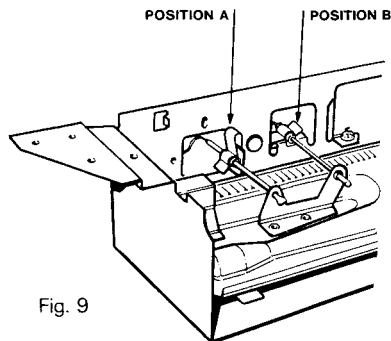

Fig. 9
8. Re-assemble in reverse order ensuring FSD phial is located in the correct position (see Fig. 9 and below).